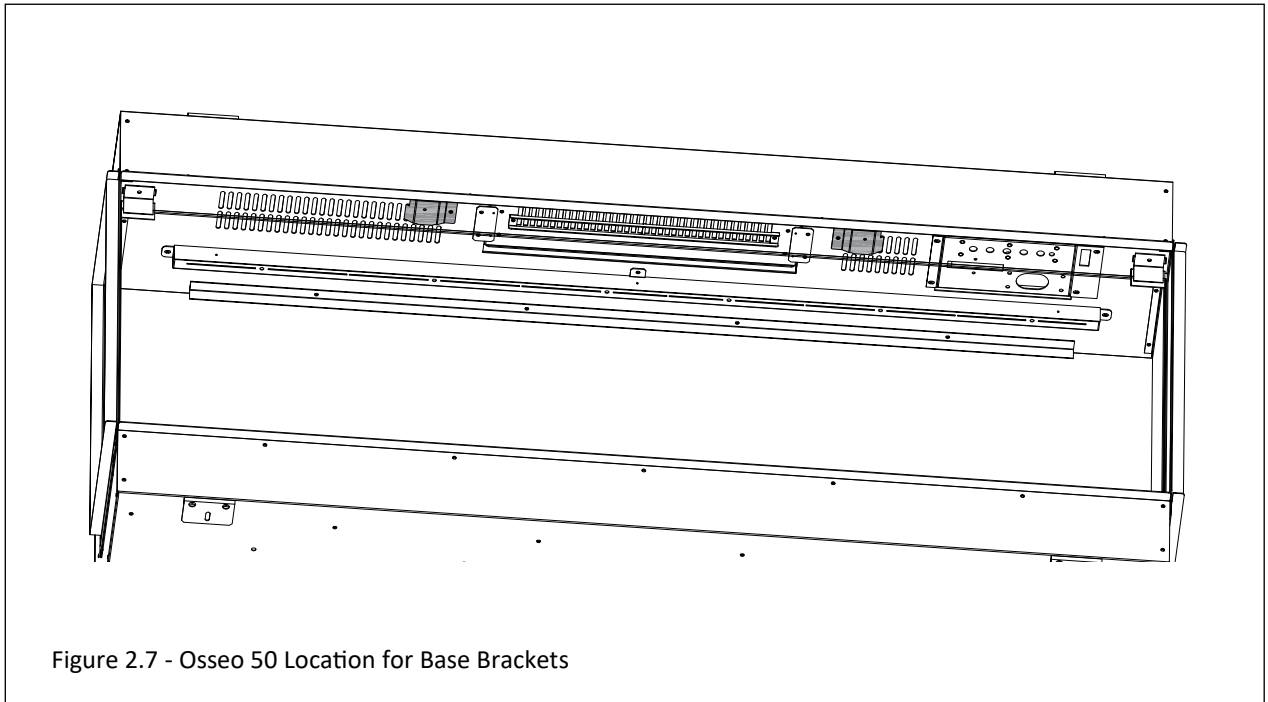
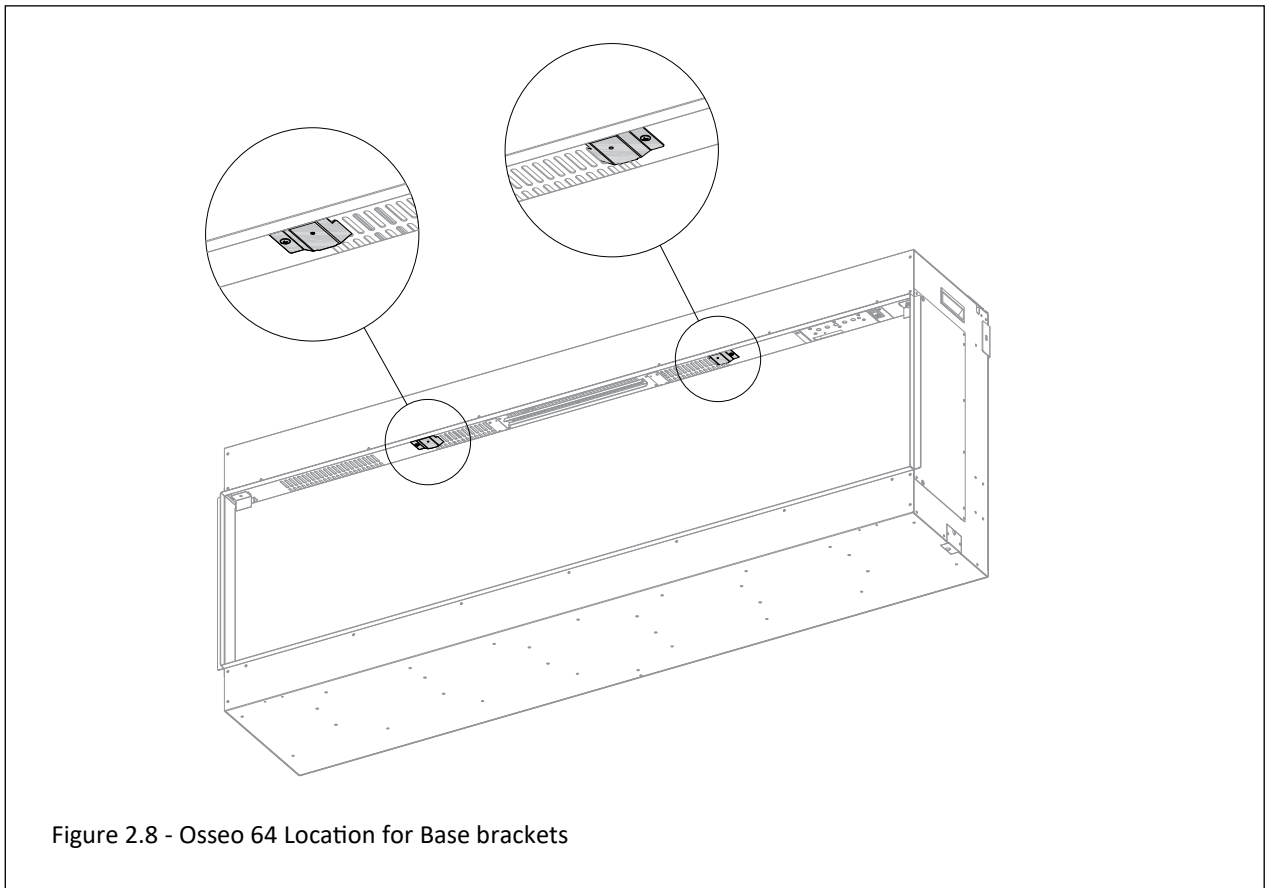
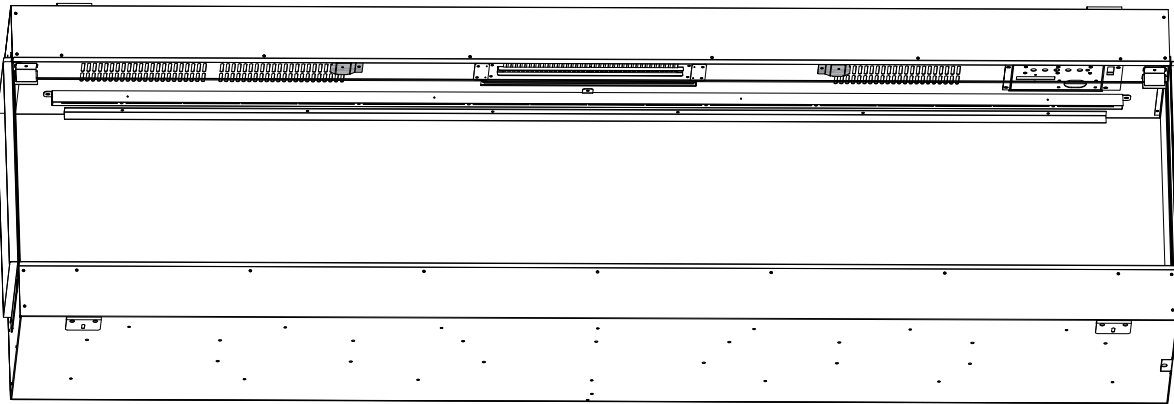

Figure 2.7 - Osseo 50 Location for Base Brackets
Figure 2.8 - Osseo 64 Location for Base brackets
Figure 2.9 - Osseo 80 Location for Base brackets
2. Install the base bracket as shown. See Figure 2.7 for Osseo 50, see Figure 2.8 for Osseo 64 and see Figure 2.9 for Osseo 80 bracket installation. There is a small tab on the bracket and position this inside the air intake louver so the opposite side of the bracket can be attached with the screw removed in step 1. This base bracket is the only item allowed inside the air intake openings. Make sure base bracket is installed in the only location shown.